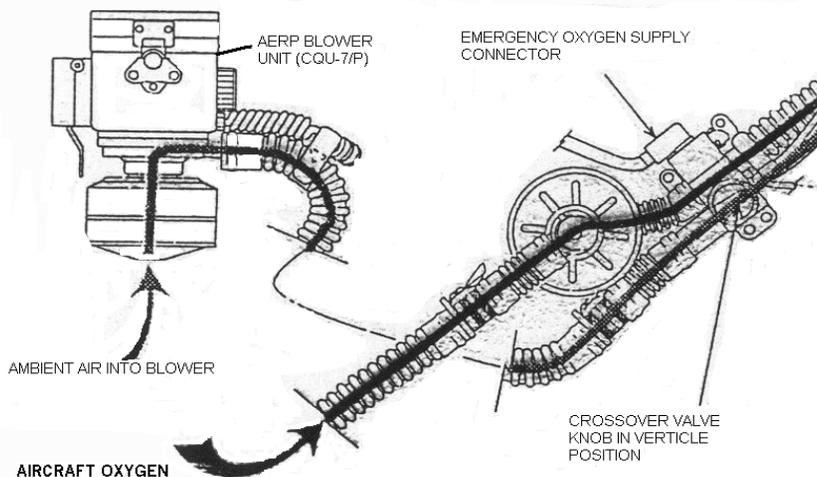

Figure 3.
- Step 1:** Place aircraft regulator in Emergency setting, rotate crossover valve to vertical, hold breath, disconnect blower from pigtail and attach aircraft supply O2 hose to pigtail. Refer to Figure 3.